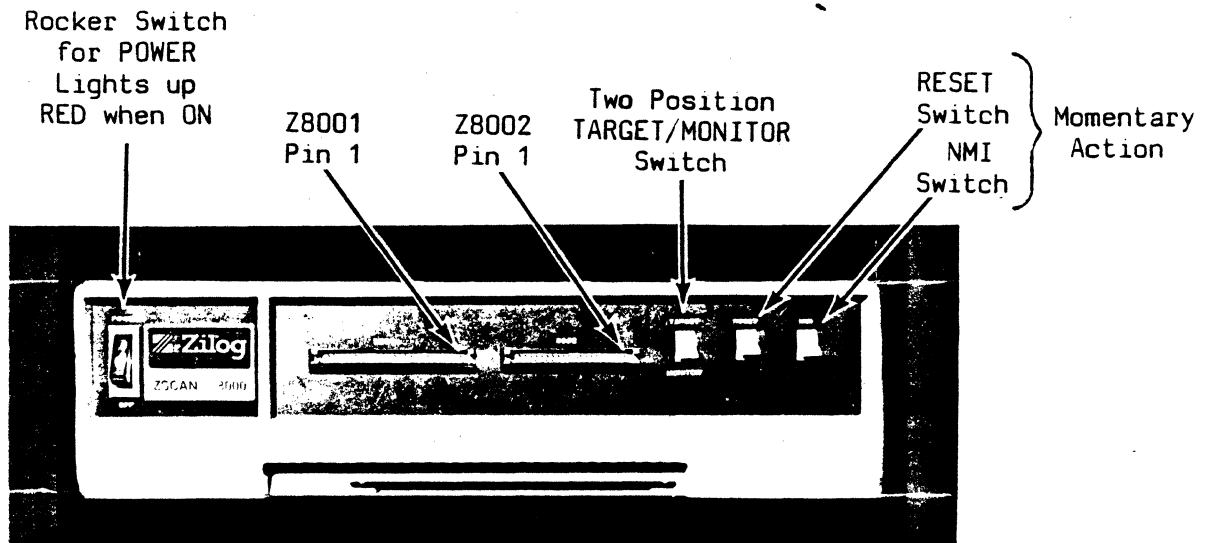

Figure 3-3. Z-SCAN Front Panel
1. Turn the red power switch on the Z-SCAN front panel to the OFF position. Figure 3-3 illustrates the switches and connections on the Z-SCAN front panel.
2. Power up Z-SCAN by turning the red rocker-type switch on the front left panel to the POWER position. This turns the electrical power on to the Z-SCAN unit. See Figure 3-3, Z-SCAN Front Panel.